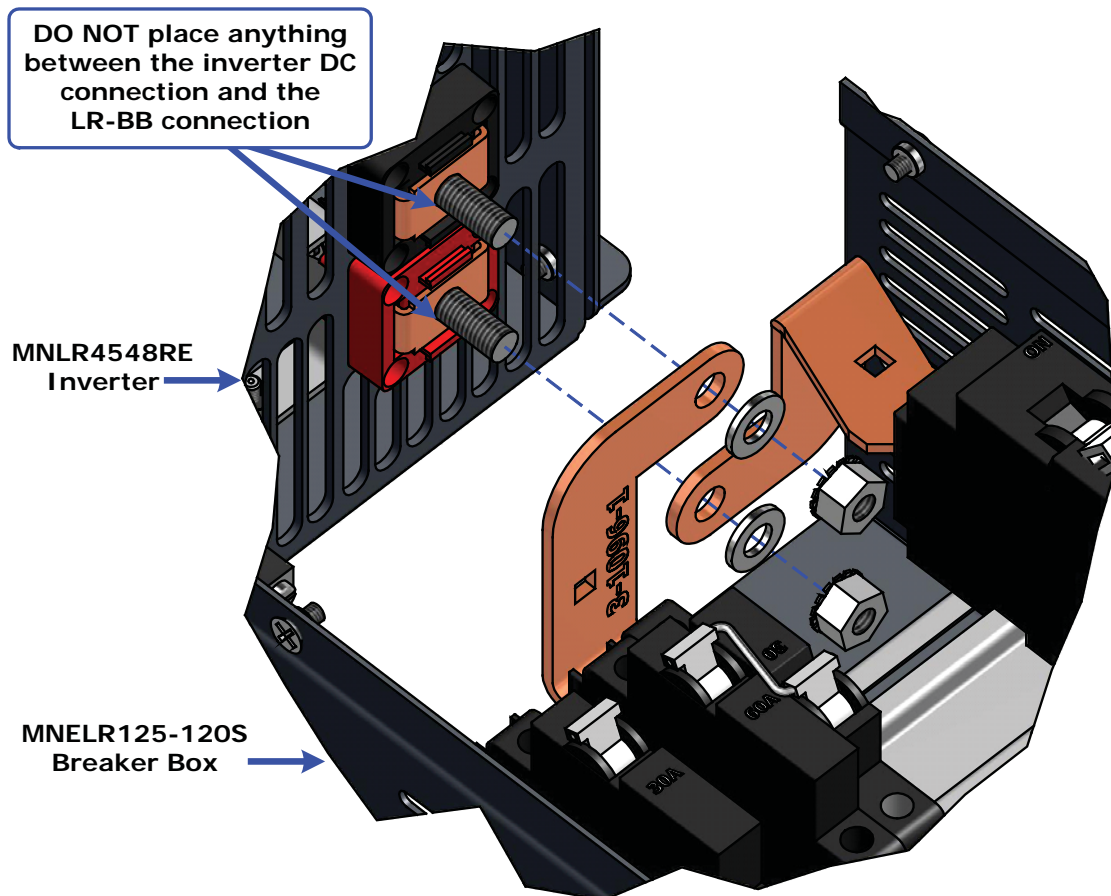

Figure 2-5, Hardware Connection to Inverter
Avoid placing any material or component between the DC cable lug and DC terminals (e.g., on the DC circuit breaker, DC shunt, batteries, and inverter/busbars). Ensure proper stacking of the hardware securing these connections. Incorrect installation can create a high resistance connection, potentially causing poor inverter performance or overheating that may result in melted cables and terminal connections. As an example, refer to Figure 2-5 for guidance on correctly stacking the hardware when connecting the LR-BB to the inverter.
3. Ensure all DC wire connections (batteries, inverter, DC circuit breaker, and DC shunt) are flush with the surfaces of the DC terminals. Properly stack the hardware securing these connections (see Figure 2-5) and tighten them securely. Only close the DC circuit breaker to supply power to the inverter after completing the entire installation and verifying all connections.